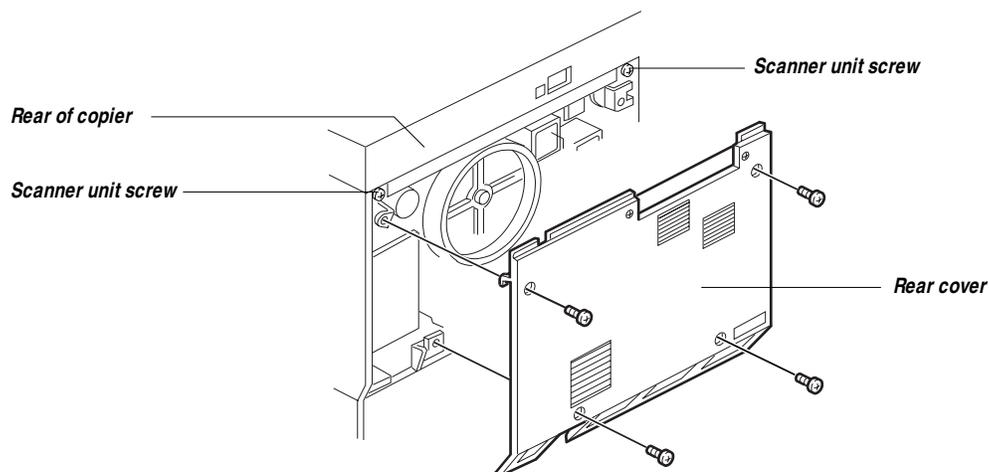

Figure 3-1 Removing the rear cover and scanner unit screws
5. **While you are at the rear of the copier, remove the two screws that attach the scanner unit to the copier (see Figure 3-1).**